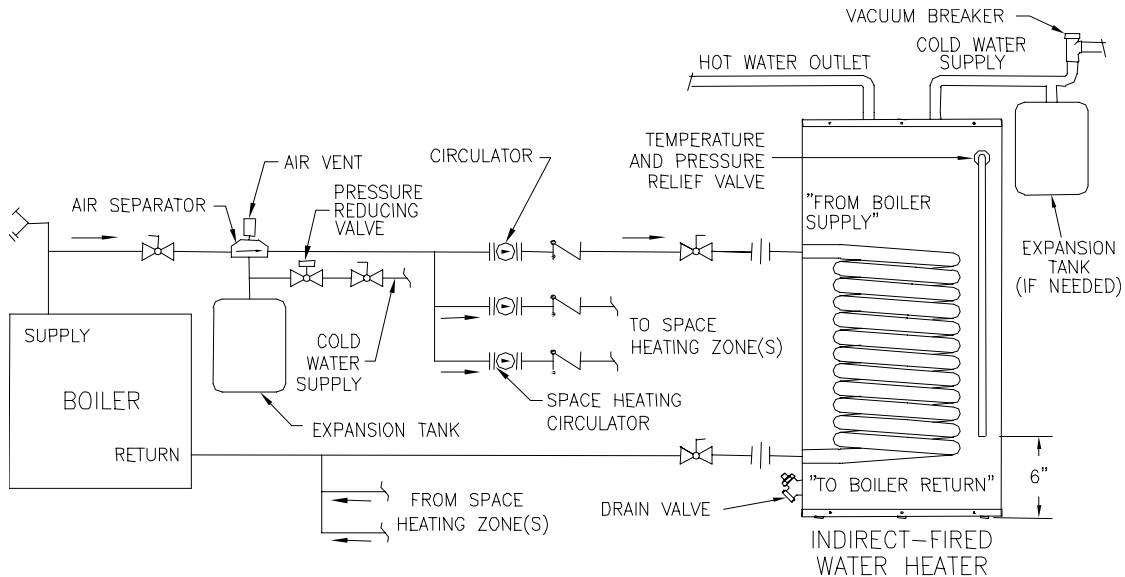

Figure 3 - Water Boiler Piping with Circulators
- For a space heating system that utilizes CIRCULATORS, refer to Figure 3. The indirect-fired water heater connection labeled “FROM BOILER SUPPLY” should be piped to the boiler supply piping. Mount the circulator making sure the flow arrow points toward the water heater. The use of shut-off valves and unions are recommended for future service convenience. The use of an air separator and vent is recommended to eliminate air in the system. Pipe and fittings between the boiler and indirect-fired water heater must be ¾” diameter or larger.